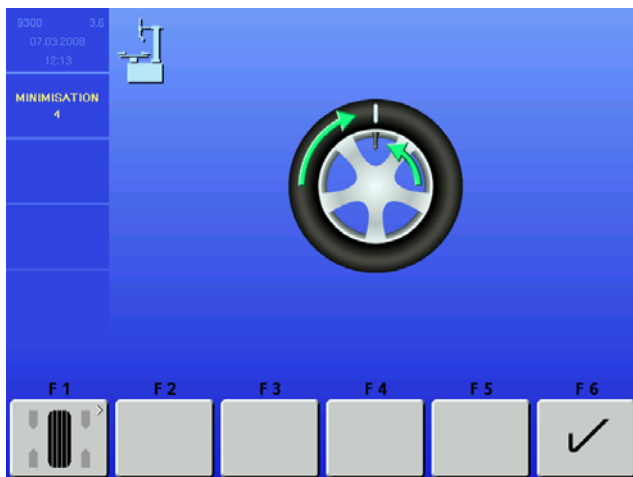

Figure 30
6. Remove the Wheel assembly from the balancer and break the bead using a tire changer. Rotate the tire on the rim so the mark and valve stem are lined up. See Figure 30. Select “F6” to continue.